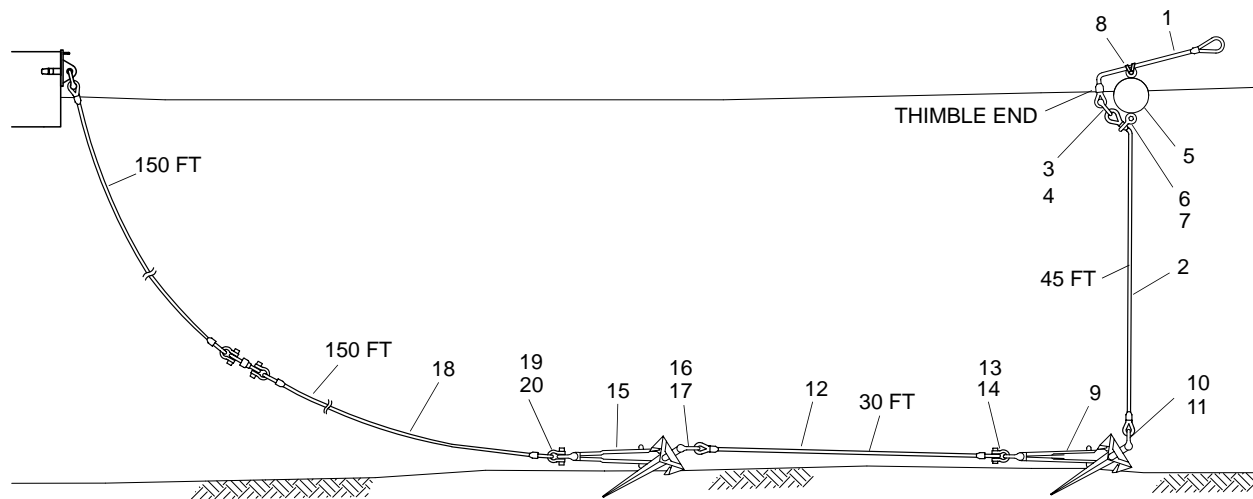
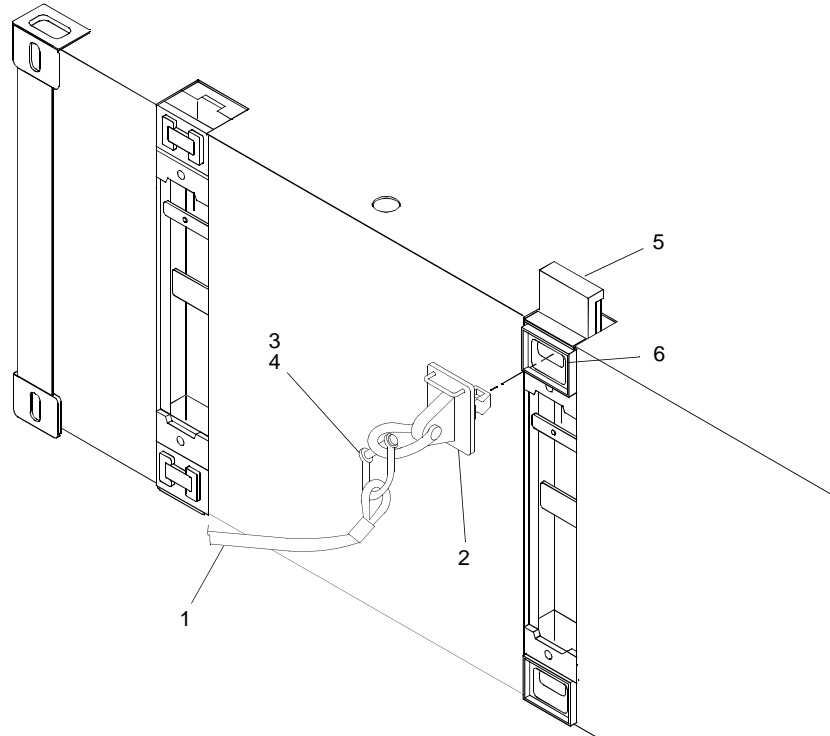

Figure 27. Offshore Mooring Leg Assembly
Figure 28. Anchor Cable Attachment
1. Attach the thimble end of 10 ft cable (figure 27, item 1) to 45 ft anchor buoy cable (figure 27, item 2) with shackle (figure 27, item 3) and pin (figure 27, item 4).
2. Position anchor buoy (figure 27, item 5) on 45 ft anchor buoy cable (figure 27, item 2) and install shackle (figure 27, item 6) and pin (figure 27, item 7).
3. Attach 10 ft cable (figure 27, item 1) to top of anchor buoy (figure 27, item 5) with two plastic cable ties (figure 27, item 8).
4. Attach 45 ft anchor buoy cable (figure 27, item 2) to first anchor (figure 27, item 9) foot with shackle (figure 27, item 10) and pin (figure 27, item 11).
5. Attach one end of 30 ft cable (figure 27, item 12) to first anchor (figure 27, item 9) shackle with shackle (figure 27, item 13) and pin (figure 27, item 14).
6. Attach other end of anchor to 30 ft anchor cable (figure 27, item 12) to second anchor (figure 27, item 15) foot with shackle (figure 27, item 16) and pin (figure 27, item 17).
7. Attach one end of 300 ft cable (figure 27, item 18) to second anchor (figure 27, item 15) shackle with shackle (figure 27, item 19) and pin (figure 27, item 20).
8. Attach other end of 300 ft cable (figure 27, item 18 and figure 28, item 1) to deadman padeye (figure 28, item 2) with shackle (figure 28, item 3) and pin (figure 28, item 4).
9. Using crowbar, raise female guillotine (figure 28, item 5).
10. Install deadman padeye (figure 28, item 2) in female guillotine upper fitting (figure 28, item 6).
11. Using sledgehammer, drive down female guillotine (figure 28, item 5) to lock deadman padeye (figure 28, item 2).
2. Attach shackle (figure 27, item 3) to WT forward winch cable.
3. Throw anchor buoy (figure 27, item 5) and anchor buoy cable (figure 27, item 2) into water.
8. Raise WT forward winch cable and disengage from shackle (figure 27, item 3).